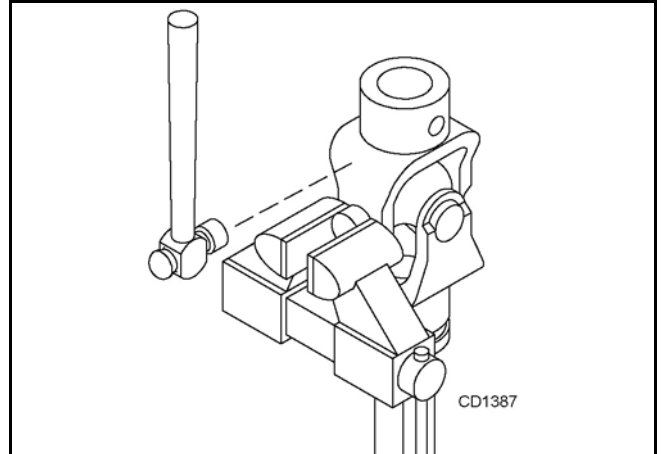

Figure 29. Remove Cups
3. Clamp cup in vise as shown in Figure 29 and tap on yoke to completely remove cup from yoke. Repeat Step 2 and Step 3 for opposite cup.